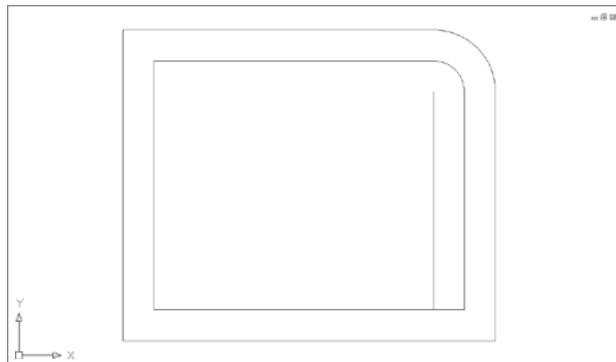

FIGURE 2.28 Offsetting the first line of the opening
2. Pick a point inside the vertical line on the right, and then pick a point to the left of this line. The line is offset, creating a new line 0.5 units to the left (see Figure 2.28).